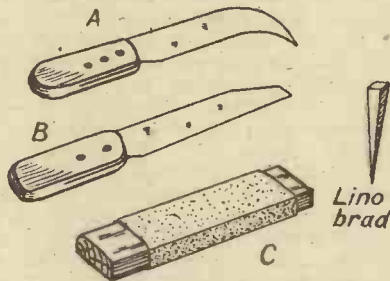
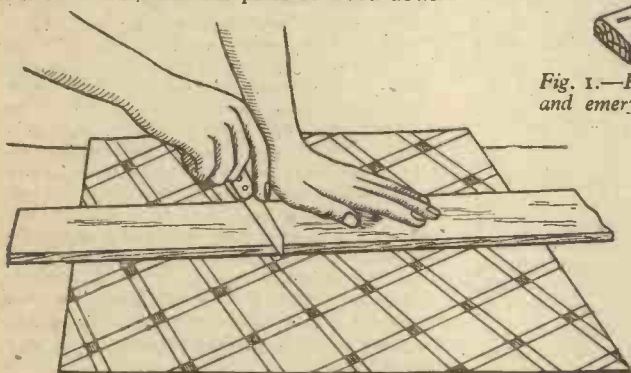

Fig. 1.—Knives used for cutting lino; and emery-paper block for sharpening.
Fig. 2.—Using a "straight-edge" when cutting lino.
In order to make a good join when laying lino a proper knife and a "straight-edge" should be used. The best kind of knife is one with a hooked point, as shown at A, Fig. 1, but a shoemaker's knife (B) makes a good substitute. For a "straight-edge" a piece of wood 3ft. to 4ft. long and about 4in. wide, with a planed edge, can be used.
firmly, and use the planed edge as a guide for the knife, as shown in Fig. 2. To keep the knife sharp, rub it on a water-stone or on a piece of fine emery cloth wrapped round a flat block of wood, as at C, Fig. 1.
When cutting narrow widths, the lino can be placed on the kitchen table (Fig. 2), but for the large main piece the work of cutting must be done on the floor. Kneel well on the lino and draw the knife along steadily, and with a firm pressure. A second or third cut may be necessary before the knife is through.